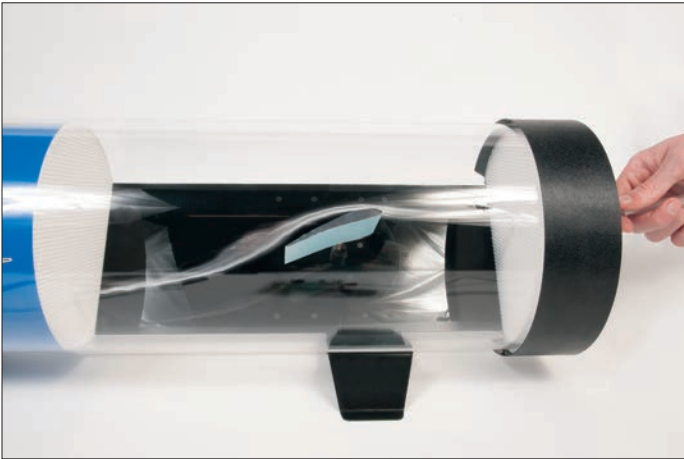
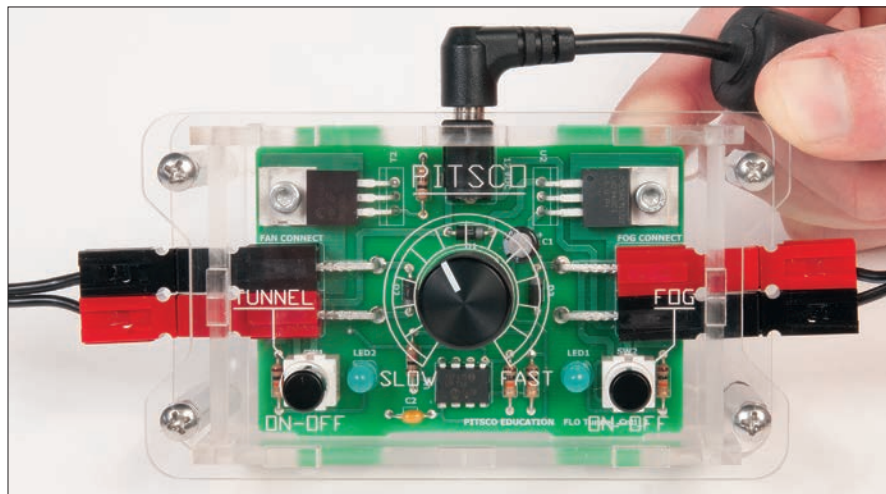

Figure 10
Figure 12
4. Push the On button for the FLO Tunnel and fog generator on the control box. Place the nozzle of the fog generator on the right side of the FLO Tunnel and press the On button on the fog generator. Test the flow of the air around the object by rotating the gear on the right side of the FLO Tunnel (Figures 10 and 11). Change the wind speed of the FLO Tunnel by twisting the knob in the middle of the control box (Figure 12).